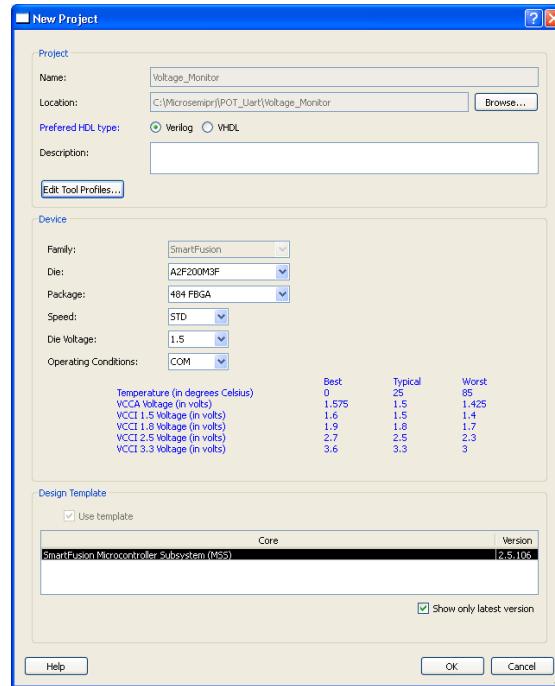

Figure 3 • New Project Dialog Window
7. The Libero SoC appears with a **New Project** dialog box, as shown in Figure 3 · below. Select the following: